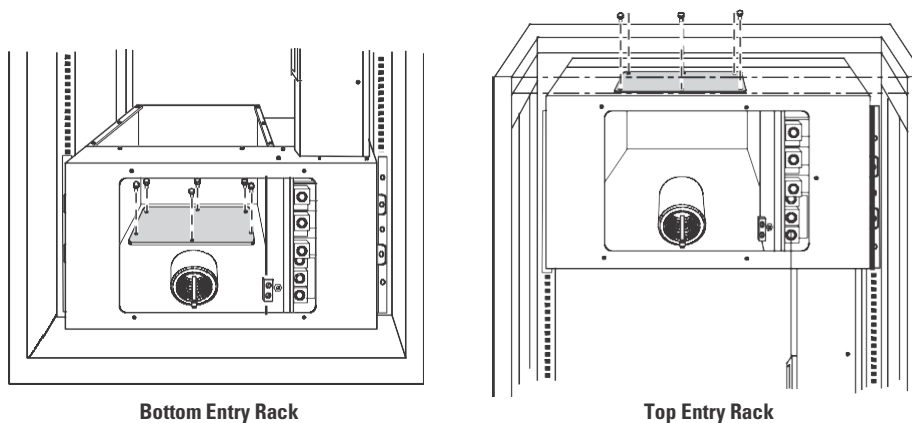

Figure 44. Removing the Conduit Landing Plate
2. Remove the six screws on the conduit landing plate and retain. Remove the plate and retain. See Figure 44.
- Route the three input phases and the input neutral through the mounted or loosened ferrite assembly (see Figure 44).